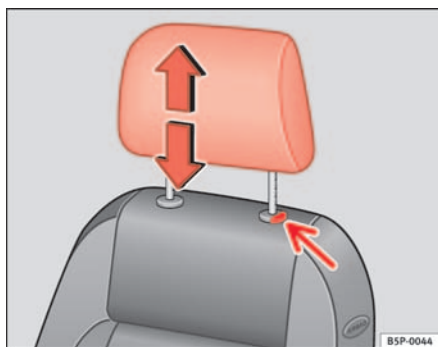

Fig. 71 Adjusting and removing the head restraints
- Press the button ⇒ fig. 71 (arrow).